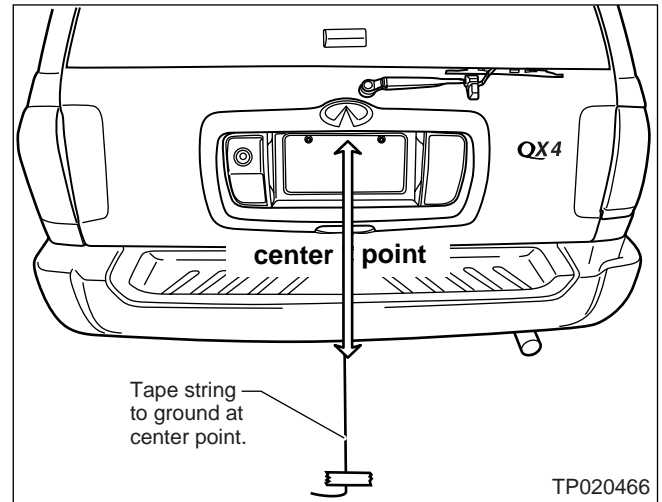

Figure 2
3. Tape one end of the string to the ground at the center point of the rear of the vehicle (see Figure 2).
NOTE: The Infiniti emblem can be used to align the center point (see Figure 2).